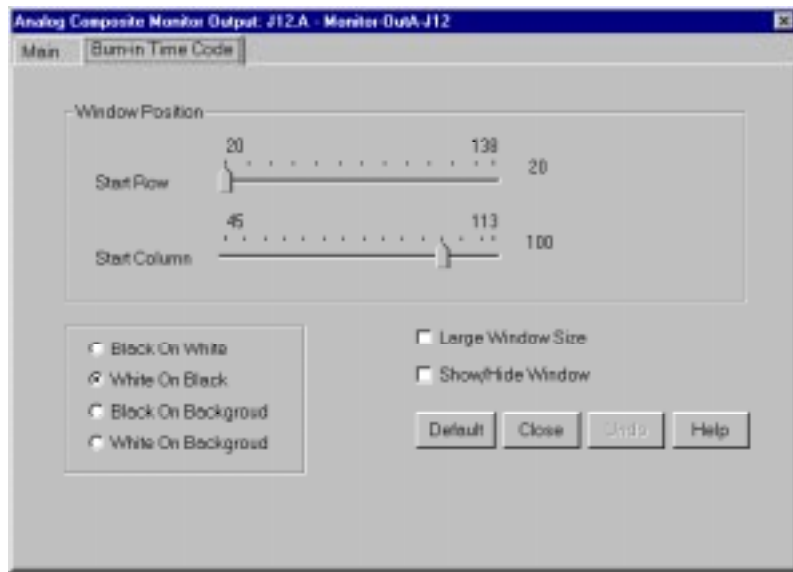

Figure 24. Analog Composite Monitor Output dialog box, Burn-in Timecode tab
1. Click the Burn-in Timecode tab to bring up the controls for displaying burn-in timecode on the monitor (see Figure 24).